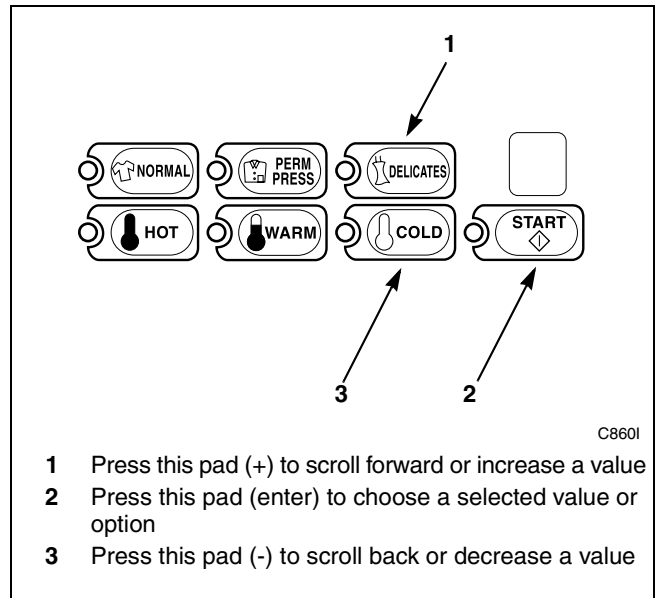

Figure 104
5. Press the DELICATES (+) or the COLD (-) keypad to increase or decrease the current number to the desired number selected from *Table 3* on the following page. Refer to *Figure 104*.